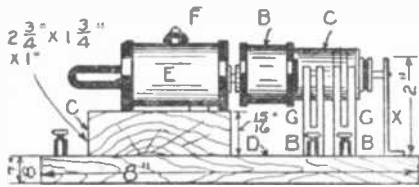
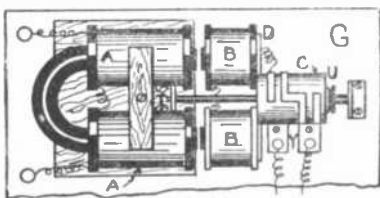
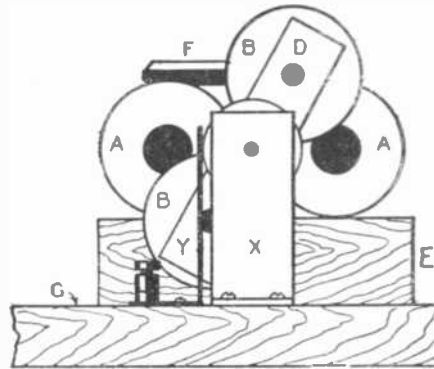

FIG. 9
FIG. 13
FIG. 14
of the fork are as far apart from one another as are the inner and outer strips on the commutator. The brushes, which have forked ends, alternate with each other in resting upon an inner and outer strip, as is clearly shown in Fig. 9 (G, G). Each of these brushes has also a clamp-screw (B, B), which later will receive the ends of the circuit wire. The brushes must be so long that the rubber for the commutator—
The baseboard (B), Fig. 9, is made out of hardwood and may be of two dimensions, one so that it can receive the apparatus alone, or else that it can accommodate the apparatus and auxiliaries, including the drive wheel. In the first case we need a board 8 inches long, 4 inches wide and 5/8 inch thick. The board will present
To raise the magnets to the proper level we need a block (C), Fig. 9, made of hardwood; this block is 2 3/4 inches wide, 3 1/4 inches long and 15/16 inch thick. It screws from below to the baseboard, or is glued thereto. A very effective fastening may be given it by the use of dowels. A bolt and cross-piece (F), Fig. 9, hold the magnet down to the block. The bolt and cross-piece are also shown in Fig. 10. The magnets must be attached to the block so that the pole ends project a few sixteenths beyond the edge of the wood, then the rotating armature will not rub against it.
To get the armature into its position we must have two supports for the bearings. The longer supporting piece (X), Fig. 9, is screwed directly to the baseboard and is 2 inches high. The bottom, bent to an angle, is screwed down through two holes to the
wood, and the thickness of this bottom or foot is not included in the two inches. This support is made of heavy brass plate in the neighborhood of one-sixteenth inch in thickness. The hole for the shaft is a little over 1 1/2 inches above the surface of the baseboard. As is shown clearly in Fig. 9, the armature must be carried at such a height that as it revolves the bobbins carrying the windings do not rub on the baseboard nor against the faces of the poles, if all is true and squared up. The armature core-ends should accurately face the ends of the poles of the field. Fig. 11 shows the high bearing support.
The second bearing pedestal is screwed down to the block and therefore must be shorter by the thickness of that block than the other one. It contains the hole for the shaft to pass through, which must, naturally, be at the same level as the hole in the other bearing, so as to keep the shaft perfectly horizontal. If everything is carried out exactly as described, this hole will be 5/8 inch above the surface of the block. The form of the bearings must be as shown in Fig. 12, or otherwise it would not fit in between the bobbins of the magnet. It is made of the same stock as the bearing (X), Fig. 9. The apparatus is now finished. Fig. 9 gives a side view. Fig. 13 gives a view seen from above. Fig. 14 is the front view. From these three the exact layout can be understood.
ture. Fig. 13. The larger the driving wheel the faster proportionately does the little wheel (U) turn. If we take for the driving apparatus a wheel of one foot diameter and for the little wheel a one-half inch diameter each turn of the large wheel will make the little wheel turn 24 times, which